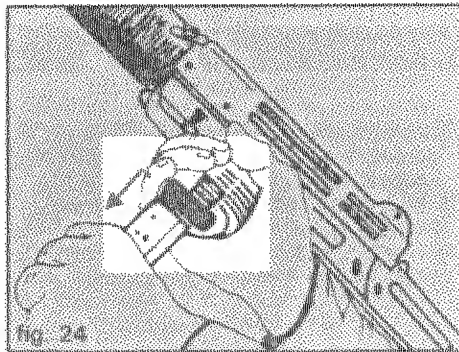

fig. 24
2. Depress magazine catch and remove magazine. (fig. 24)